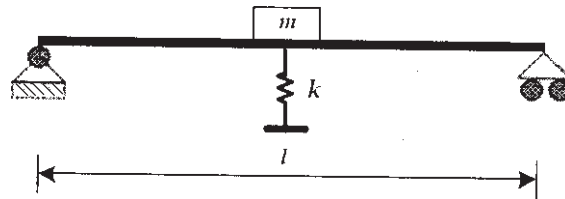

Fig. 4.a
- Q4) a)** A machine of mass $m = 350$ kg is mounted on a simply supported steel beam of length $l = 1.75$ m, having a rectangular c/s of $b = 1.0$ m and $d = 0.15$ m and $E = 2.01 \times 10^6$ N/mm². To reduce the deflection of the beam, a spring of stiffness k is attached at the mid-span, as shown in the Fig. 4 a. Determine the value of k . [8]